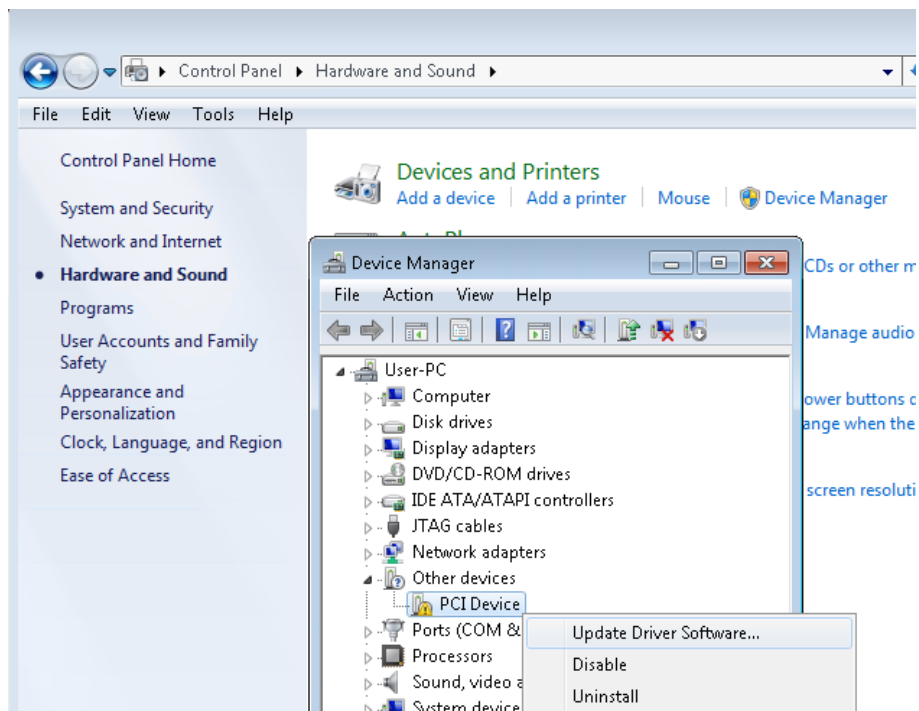

Figure 7-3 Screenshot of launching Update Driver Software... dialog
5. Click Control Panel menu from Windows Start menu. Click Hardware and Sound item before clicking the Device Manager to launch the Device Manager dialog. There will be a PCI Device item in the dialog, as shown in **Figure 7-3**. Move the mouse cursor to the PCI Device item and right click it to select the Update Driver Software... item.